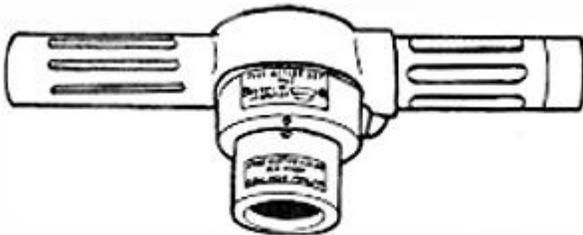

Figure 3-11. M63 fuze setter
e. **Setting the M563, M564, or M565 fuze.** The M563, M564, M565 fuzes do not require a precision fuze-setting instrument such as the M26 fuze setter. The time ring on each of these fuzes is set with a fuze setter and socket such as the M63 (Figure 3-11) or a simple spanner fuze setter, open-wrench type, M34 (Figure 3-12). Each fuze has a vernier scale